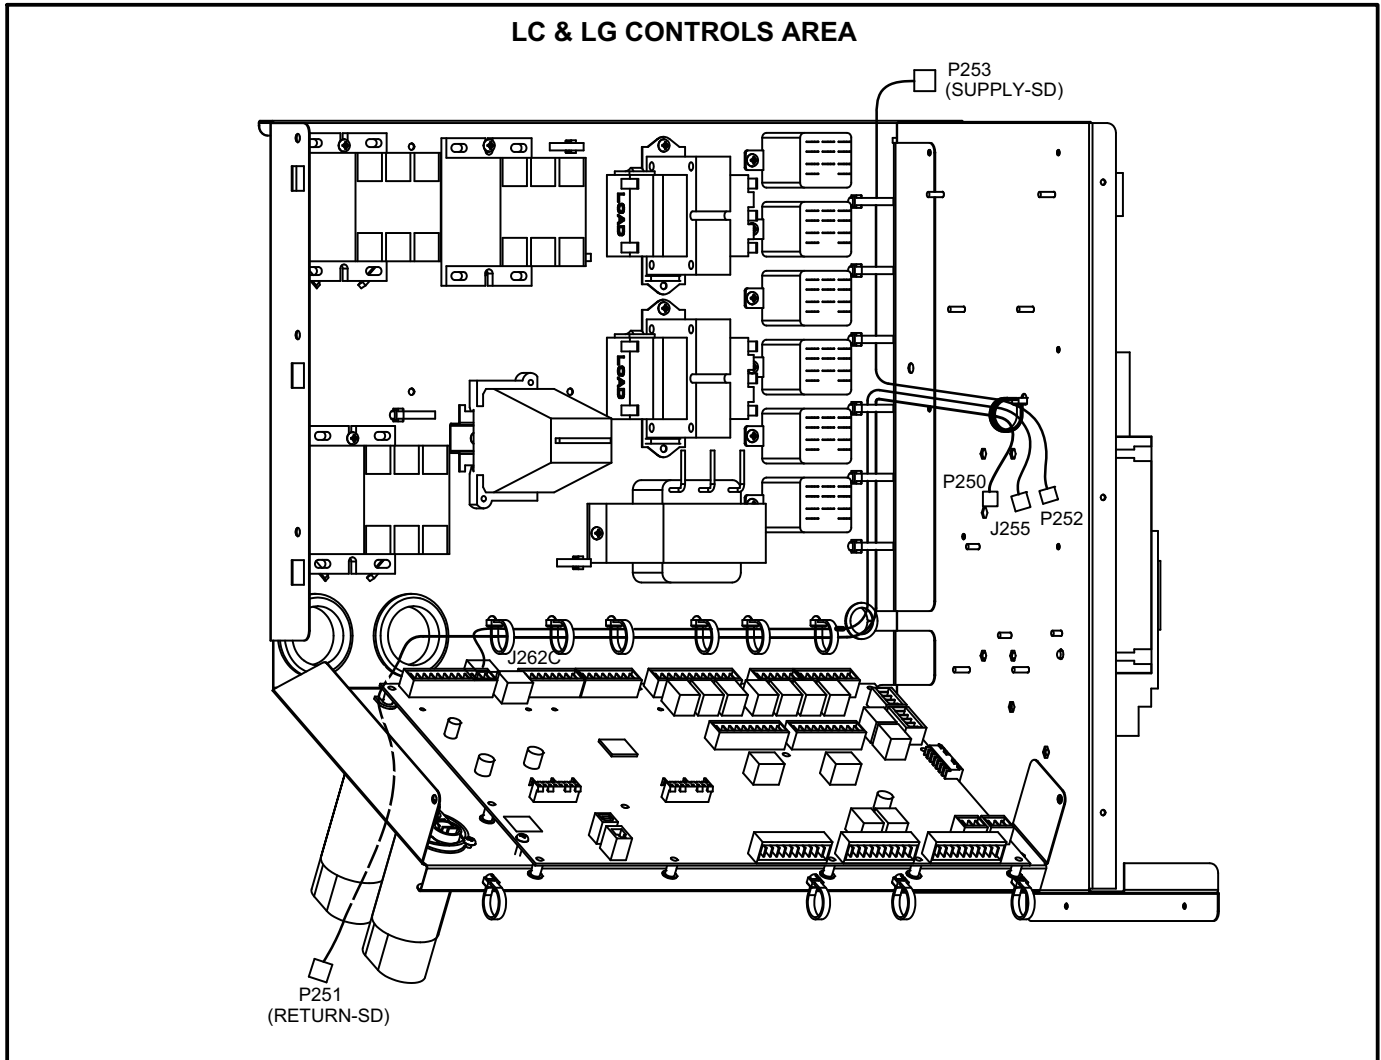

FIGURE 8
- 2 - Secure P255, J250 and J252 harness ends to the insertion-type wire tie located in the control box. See figure 8.